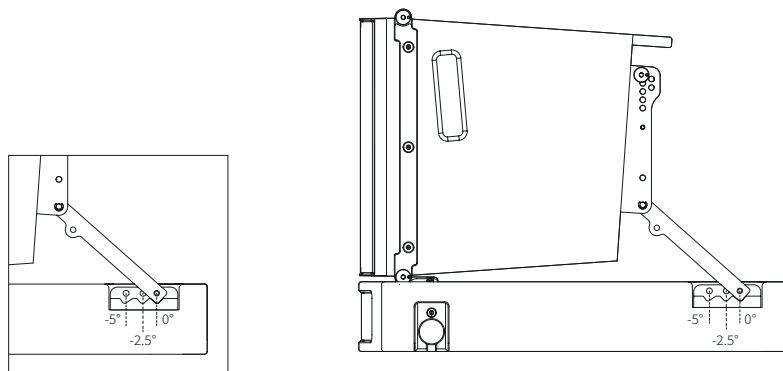

Figure 11. M-F3A S12 PRO SFi and M-F3A S15 PRO SFi rear holes for angle definition.
3. Unfold the moving part in the rear of the box and lock it with the rear security pin of the stacking frame. As shown in figure 11, set the desired aiming angle with the three positions available: 0°, -2.5° and -5°.